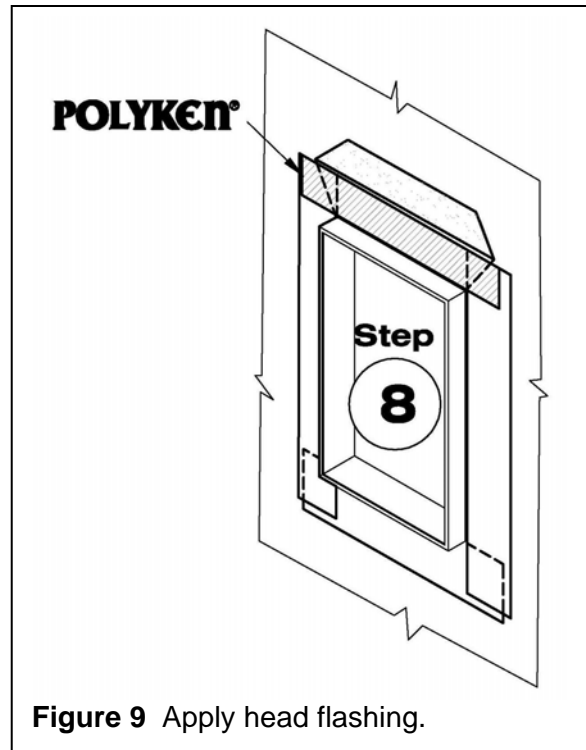

Figure 9 Apply head flashing.
Step 8. Precut Polyken® or Nashua® head flashing tape to extend a minimum of 6” beyond the jambs of the rough opening. Peel off release liner and adhere Polyken® or Nashua® head flashing over window fin and substrate. Install supplemental head flashing (where occurs) with a strip of Polyken® or Nashua® flashing over the top leg (see Figure 9).